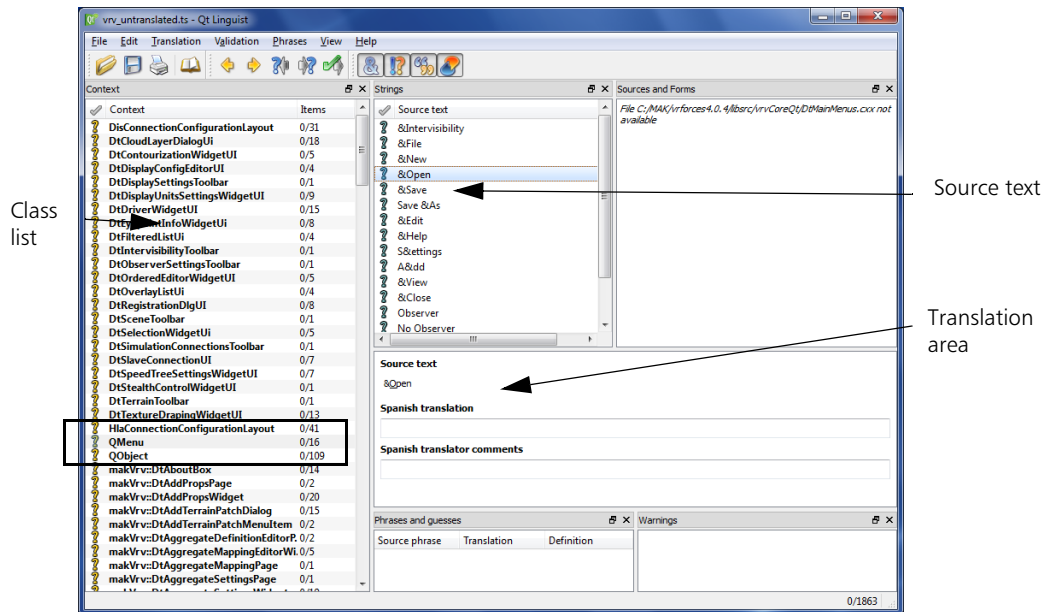

Figure 1-5. Linguist window
4. Click OK. The translation file is opened and a list of classes is displayed on the left side of the window (Figure 1-5).
5. To translate text, you select each class in turn and translate the text associated with that class. You do not have to understand anything about what the classes mean, you just have to translate the text. In Figure 1-5, *QMenu* is selected. The Strings window lists text that can be translated. Text that has not been translated has a question mark in the checkmark column.